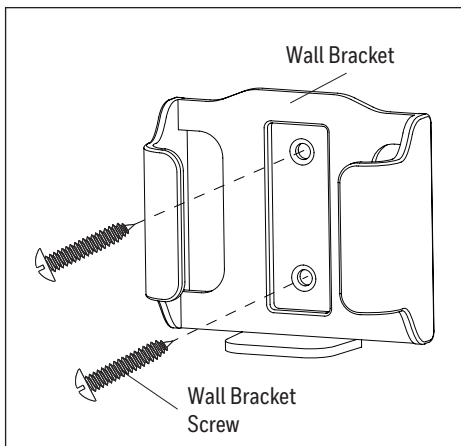

Figure 4.7
7. If desired, the wall bracket in remote pack can be installed to a wall using the provided mounting screws. The remote can be stored in the wall bracket for easy access. The remote can be stored in the wall bracket for easy access (Figure 4.7).